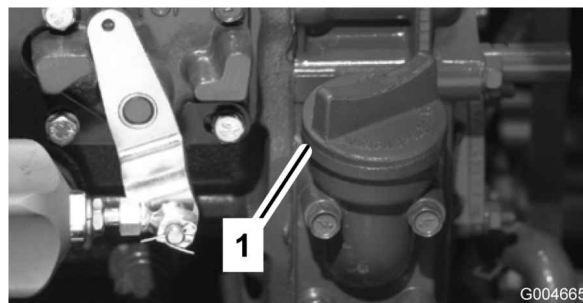

Figure 6
4. If the oil is below the Full mark, remove the fill cap (Figure 6) and add oil until the level reaches the Full mark. **Do not overfill.**